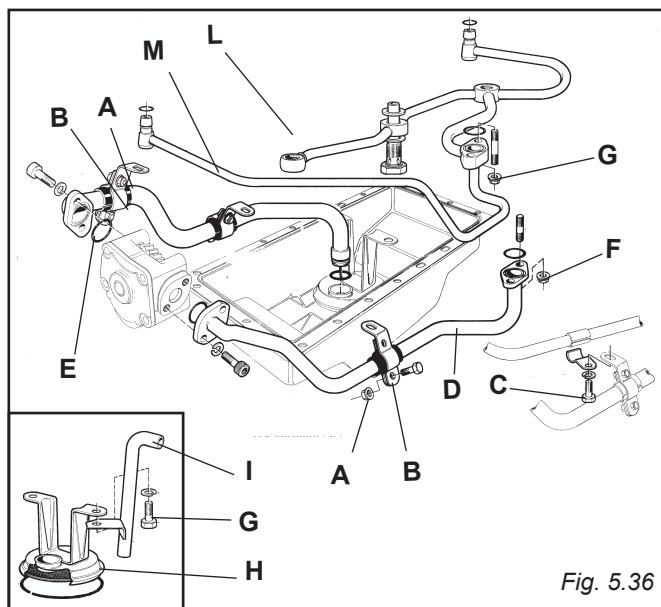

Fig. 5.36
5.48 SUMP OIL SUCTION AND DELIVERY PIPES AND OIL FEED PIPES TO MAIN BEARINGS (FIG. 5.36)